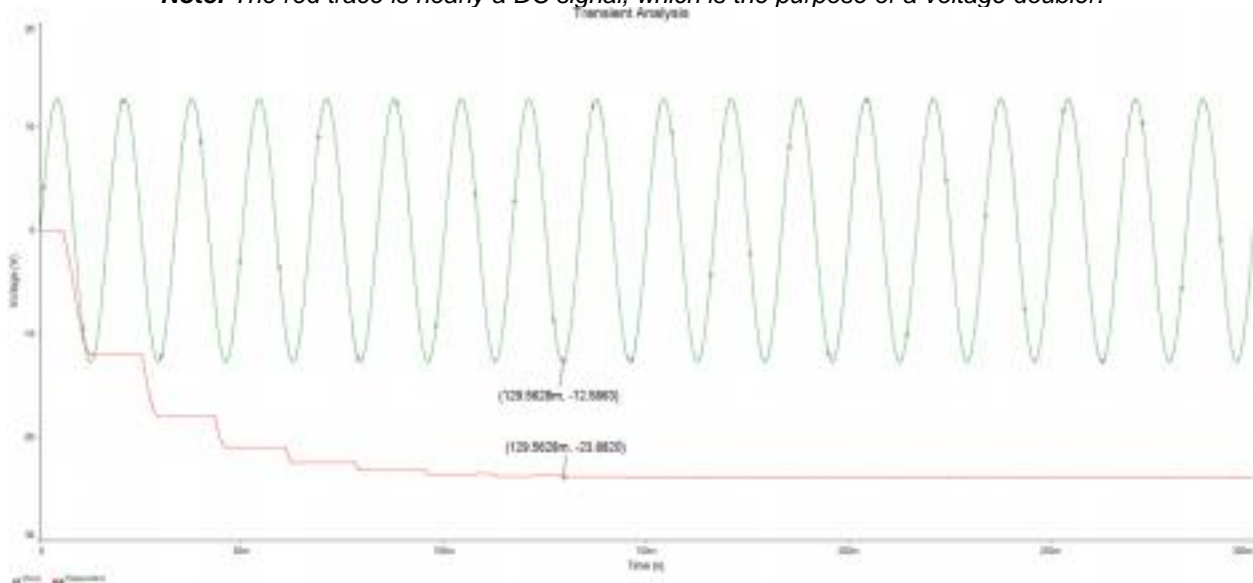

Figure P.5 – Secondary Coil Voltage and Output Voltage Across Load Resistor
3. **Figure P.5** shows a successful doubling of a $V_{source} = 9V_{RMS}$ (12.586V_P) source. The red trace shows a nearly doubled value of -23.88V, which is nearly $|2V_P|$. Notice steady state for the circuit is not reached for roughly 6 cycles.